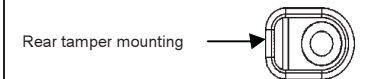

Figure 3: Rear Tamper Release
7. If using the rear tamper switch, insert a screw into the rear tamper mounting hole located in the center of the back cover – see Figure 3. When the detector is removed from the wall, the screw causes the tamper release to break away from